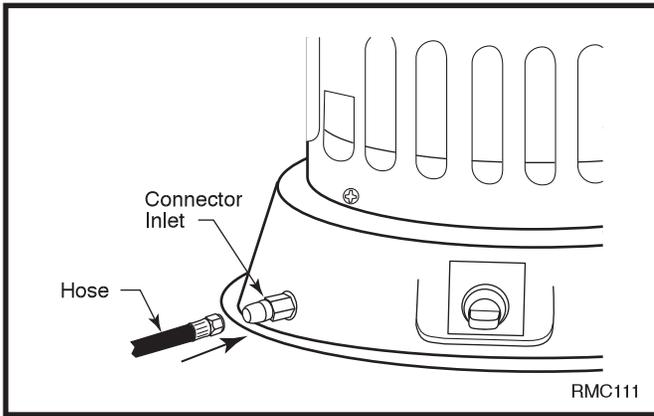

Fig. 6 Hose and connector inlet.
9. Connect hose to the connector inlet. (Fig. 6) Use a wrench to prevent connector inlet on heater from turning as you tighten firmly using a wrench. You must use the regulator supplied with heater even if propane tank has one.